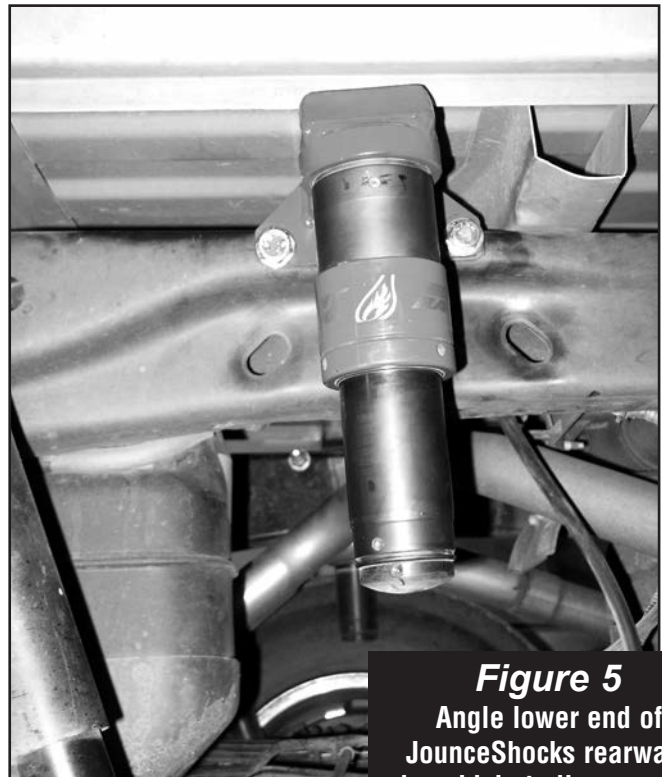

Figure 5
8. Rock front edge of Cross Tube down so it rests on frame. This will angle lower end of JounceShocks rearward in vehicle (as shown in **FIGURE 5**) to line up with Target Plate Assemblies.